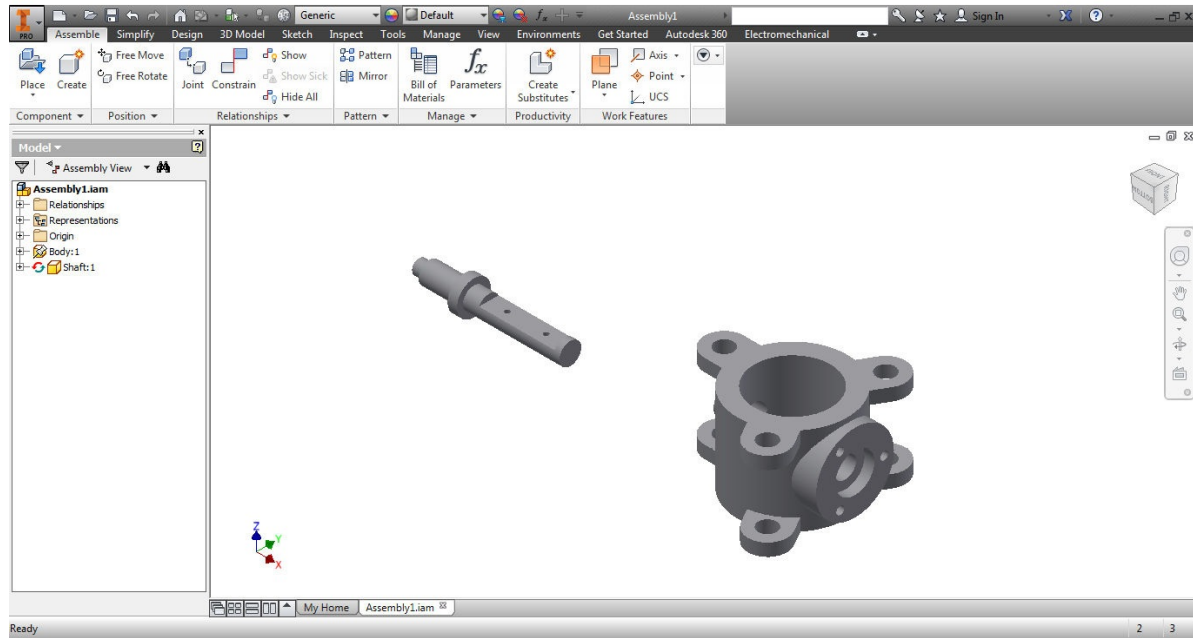

Figure 9-64 The assembly file after creating the Body and the Shaft
9. Choose the **Free Move** tool from the **Position** panel of the **Assemble** tab and then move the cursor over the Body; you are prompted to drag the component to a new location. Select the Body and drag it to a new location where it does not interfere with the Shaft. Choose the **Zoom All** tool to increase the display area. The assembly file with both the components is shown in Figure 9-64.
*If the orientation of the Shaft and the Body on your computer screen is different from the one shown in Figure 9-64, you can reorient them using the **Free Rotate** tool from the Marking menu.*